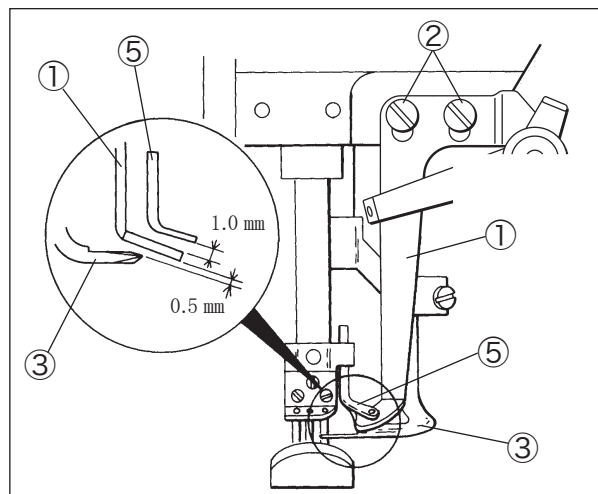

Fig. 6-11
- (1) Loosen the screws ② of the top cover thread guide ① . (Fig. 6-11)
- (2) Make the clearance between the top of the spreader ③ and the bottom of the top cover thread guide ① to 0.5 mm . (Fig. 6-11)
- (3) Set the hook ④ in the center of the slot of the top cover thread guide ① when the spreader ③ is at the extreme right. Then, tighten the screws ② securely. (Figs. 6-11 and 6-12)
- (2) Make the clearance between the top of the top cover thread guide ① and the top cover thread eyelet ⑤ to 1.0 mm when the needle bar is at the lowest point. (Fig. 6-11)